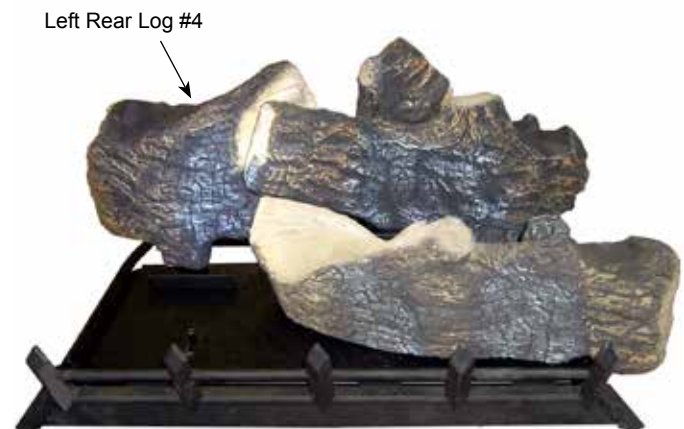

Figure 27. Place Left Rear Log #4
4. Place left rear log (#4) on pin located on rear support bracket on left side. *Figure 27*